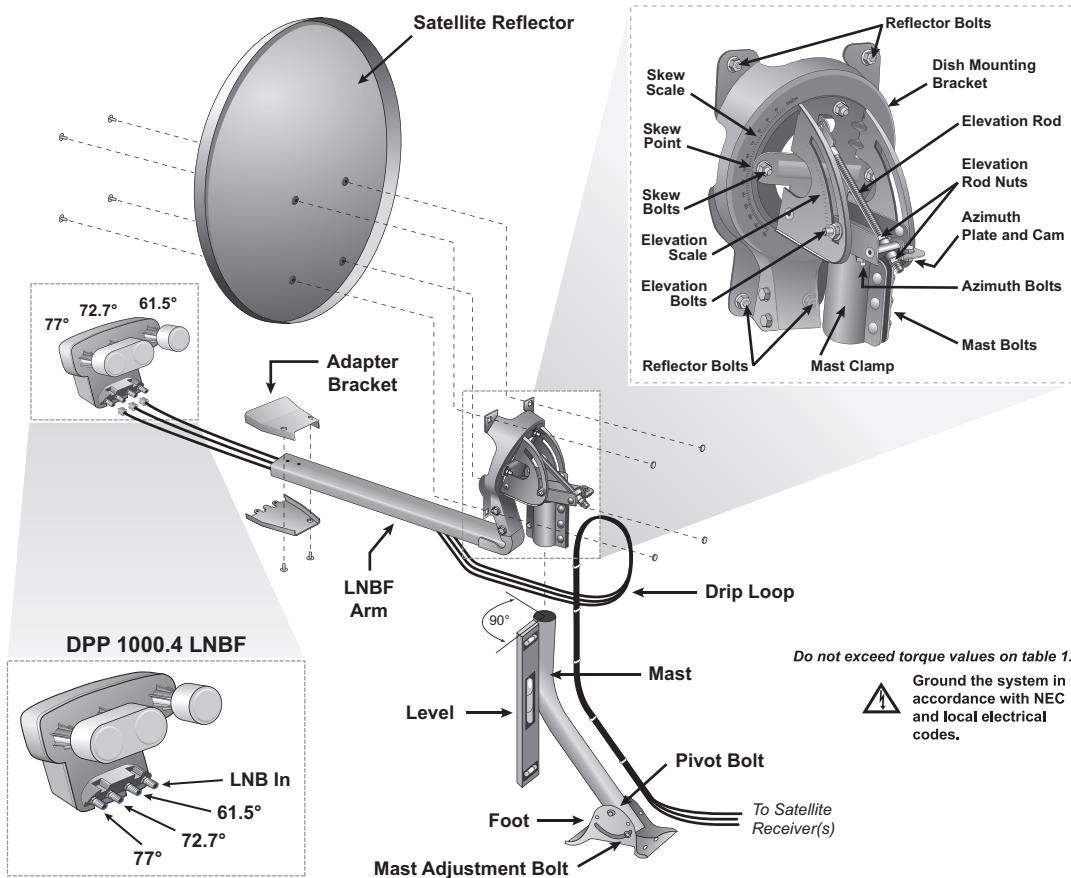
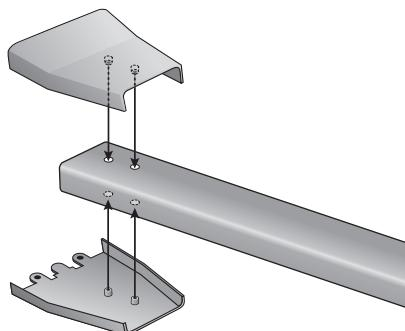

Figure 1. DISH 1000.4 Antenna Installation Overview
Figure 3. Bracket posts fitting into LNB arm (bolt holes removed for clarity)
The DISH 1000.4 includes enhanced peaking controls for the azimuth and elevation settings that provide the ability to more easily obtain an optimal peaking of the dish antenna. Refer to Figure 1 on page 2 for more details on the enhanced peaking controls.
- 3 Align the top part of the mast so that it is absolutely vertical. If the top part of the mast is off vertical by only a few degrees, it will be difficult or maybe even impossible for you to find the satellites. Take at least two readings with a level, on the upper mast, that are 90 degrees apart from one another (see Figure 1).
Assemble the satellite dish as shown in Figure 1, except do not attach the LNB at this time. The LNB Arm has a specific orientation, indicated by the labeling Top and To LNB. When attaching the DISH 1000.4 LNB Bracket to the LNB Arm, be sure that the small posts on the bracket fit into the holes on the LNB Arm (see Figure 3).
Use the steps below while referring to Figure 1.
- 3 Connect the coaxial cable between the LNB on the second dish and the **LNB IN** port on the DPP 1000.4 LNB. Refer to Figure 1 on page 2.